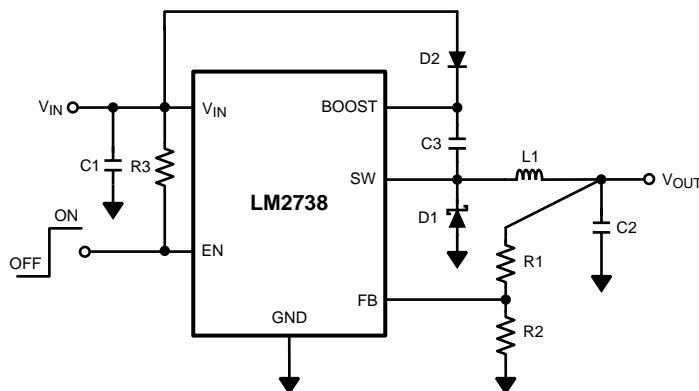

Figure 30. LM2738X (1.6 MHz)
**Table 1. Bill of Materials for Figure 30**